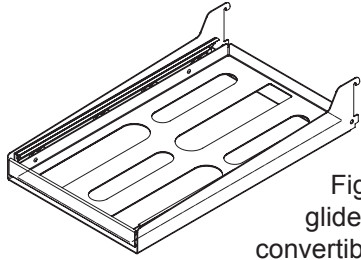

Figure 31
- (2) glide out wine convertible glass shelf (See Figure 31).